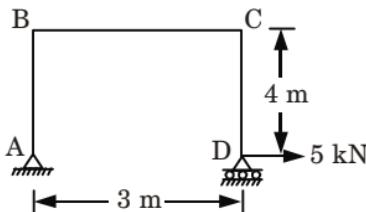

Fig. 28.
- 3. a.** Determine the horizontal displacement of the roller end D of the portal frame shown in Fig. 28.  $EI$  is  $8000 \text{ kN-m}^2$  throughout.